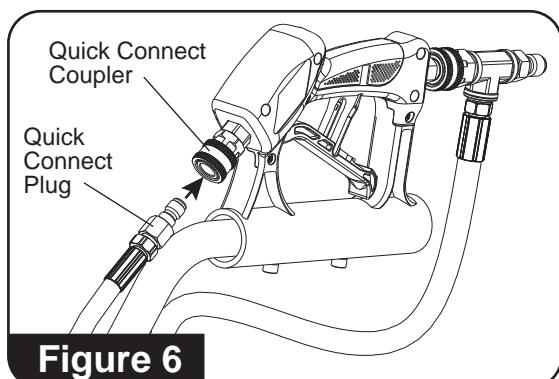

Figure 6
6. Attach the quick connect plug to the quick connect coupler. (See Figure 6)